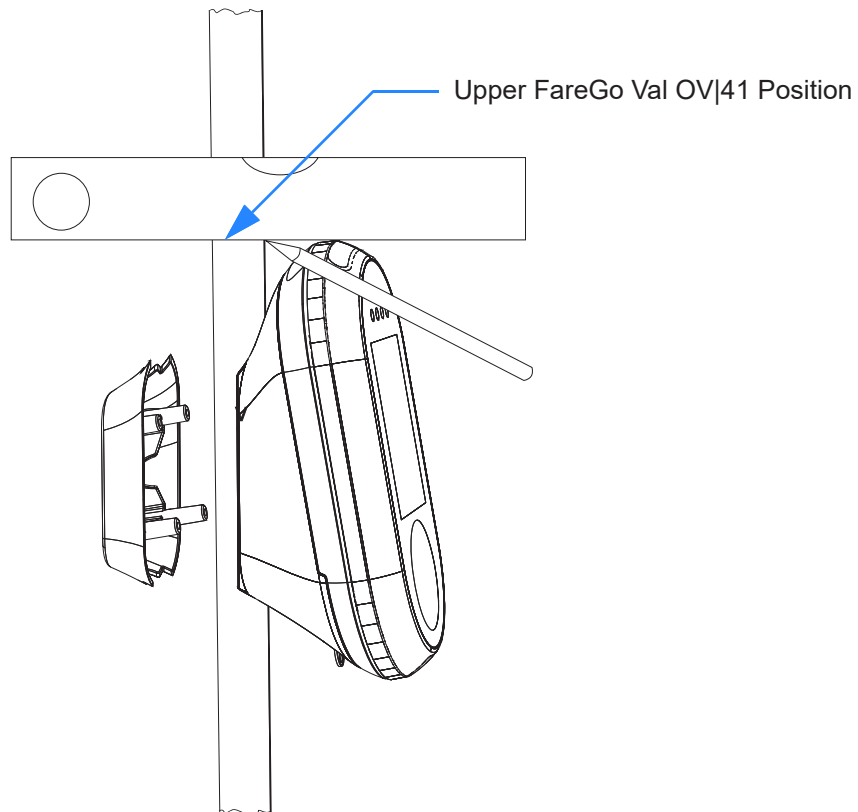

Figure 3-40 Marking Upper FareGo Val OV|41 Position
- Step 1** Mark the upper edge of the FareGo Val OV|41 on the pole, see **Figure 3-40**.